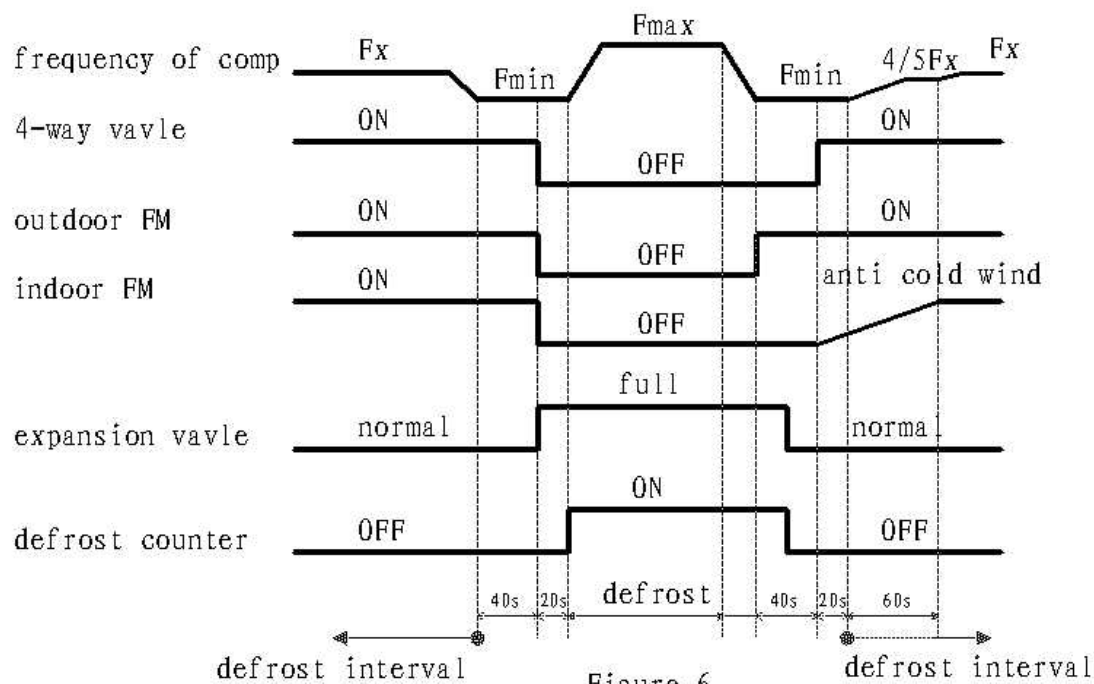

Figure 6
4. The control of outdoor fan motor as figure 6 during defrost process.
3. The control of reverse valve as figure 6 during defrost process.
七. Defrost of heating mode (figure 6)
4. Time sequence of defrost process (figure 6).